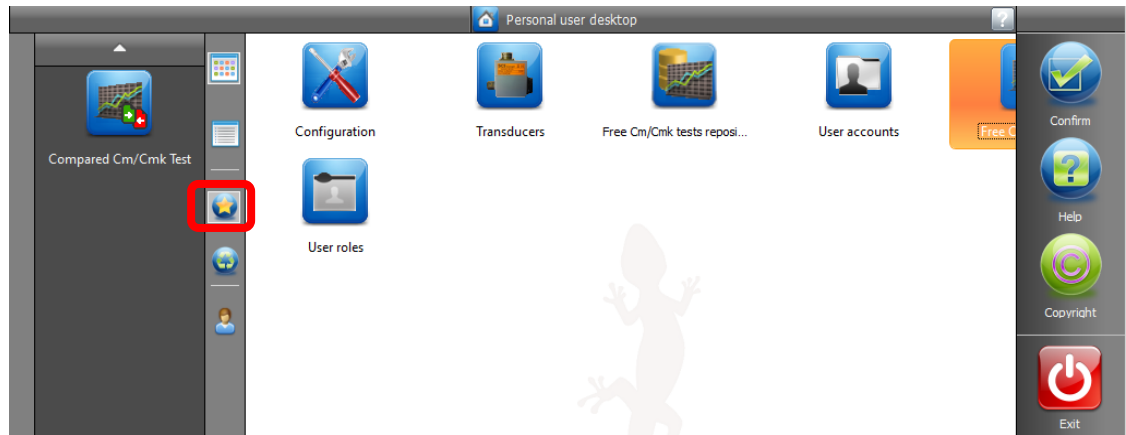

Figure 15
- click to the favorite button (See **Figure 15**)